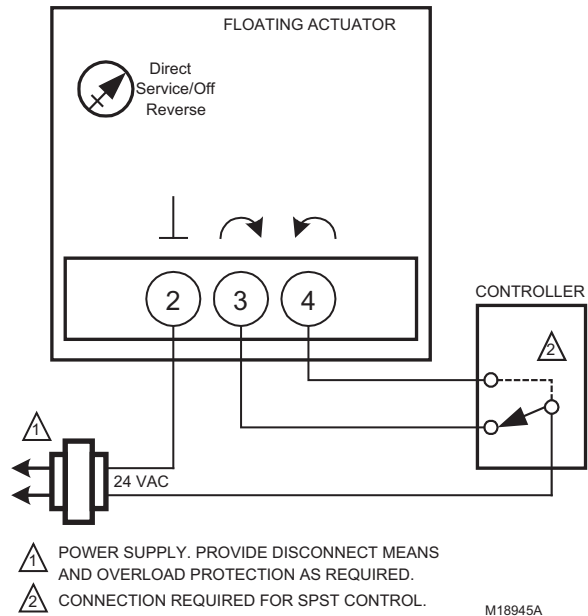

Fig. 15. Wiring for On/Off Control
2. Wire actuator using Figures 15 through 23 for the application required.